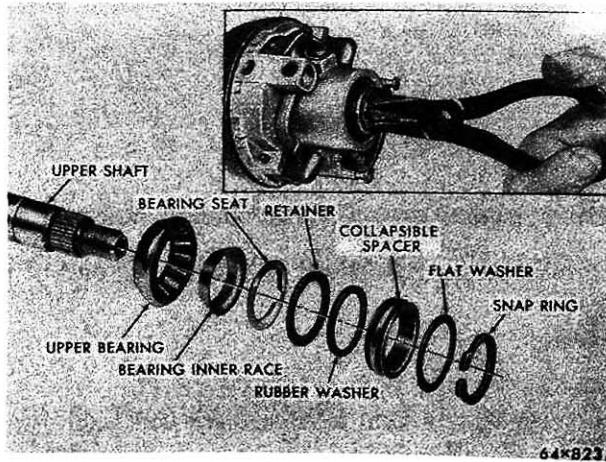
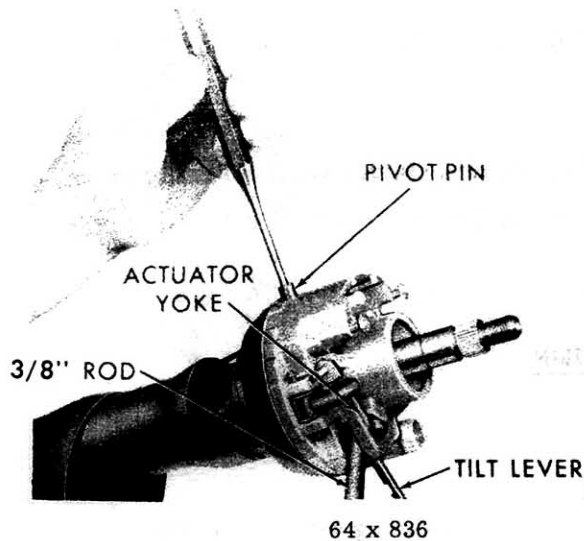
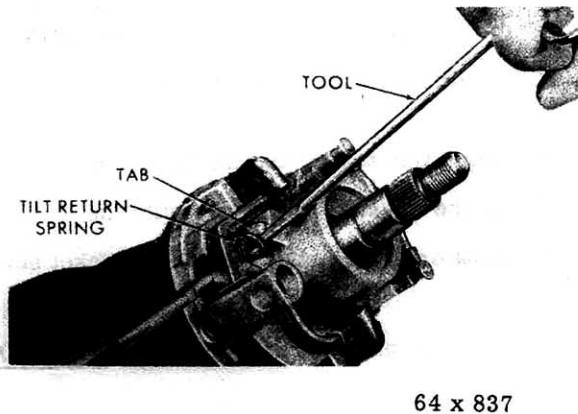

Fig. 23 - Removing Retainer Ring and Sequence of Parts
Fig. 36 - Installing the Pivot Pins
Fig. 37 - Installing the Tilt Return Springs
- (7) Remove the upper shaft bearing snap ring with snap ring pliers Tool C-3128 (Fig. 23).
- (8) Remove the flat washer, collapsible spacer, rubber washers, retainer, bearing seat, bearing inner race, and upper steering shaft upper bearing, (Fig. 23).
- (5) Install the release lever in the actuator housing and raise the lever "up" and block the actuator yoke in this "up" position with a 3/8 inch rod to prevent the lock shoes from engaging the lock pins, (Fig. 36).
- (6) Install the actuator assembly over the steering shaft while guiding the turn signal cable and horn contact wire through the actuator support and shifter bowl. Do not position the horn contact at this time.
- (7) Align the actuator assembly pivot pin holes with the holes in the support assembly, then install the pivot pins using a brass drift (Fig. 36), to fully seat the pins. The steering shaft may have to be slightly raised to have the lock shoes clear the socket.
- (8) Raise the release lever, remove the 3/8 inch rod (tool) and position the upper steering column and actuator to the full "up" position.
- (9) Install the upper ends of the two return springs with Tool C-3956 (Fig. 37).
- (10) Install the turn signal actuator yoke assembly making sure that the ball socket engages the turn signal bellcrank ball.
- (11) Install the upper bearing (rollers facing up), (Fig. 23) bearing inner race, bearing seat (flanged portion "up"), retainer (dish facing up), rubber washer, a new collapsible spacer, and washer.